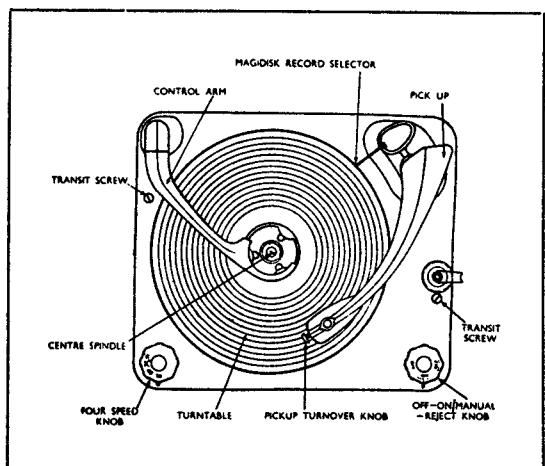

FIGURE 7.
No oil should be used on the Magidisk Record Selector Bearing (see Figure 7).
#### (2) To Remove Control Arm Assembly (Item 8M2A) (See Figure 7)